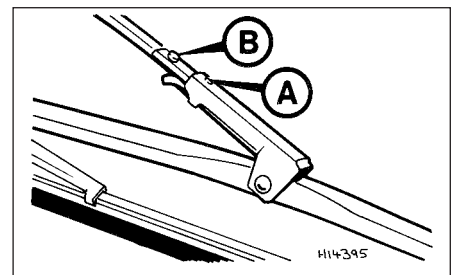

Fig. 9.7 Tailgate wiper blade fixing (Sec 26)
- 2 With the thumb nail pull down the tab to release the peg (B) from the hole (A) (Fig. 9.7). Pull the blade from the arm.